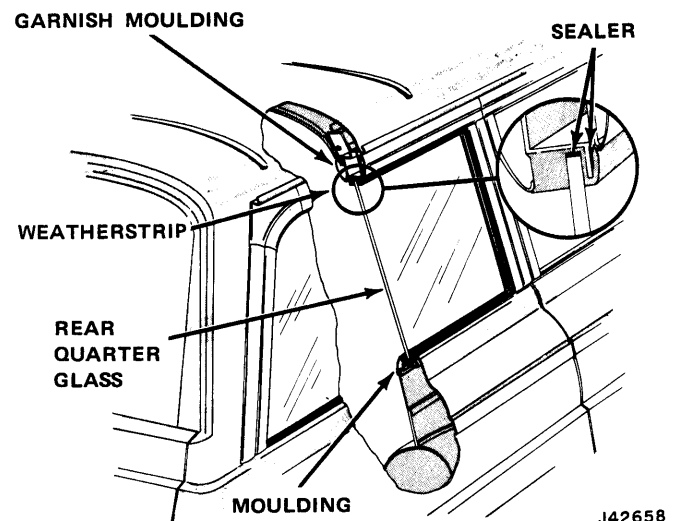

Fig. 15-6 Rear Quarter Window—Cherokee-Wagoneer
- (1) Remove interior garnish mouldings from around window and break seal loose between weatherstrip and body panels.
- (2) Push glass toward inside of vehicle.
- (3) Remove weatherstrip from around glass and clean old sealer from glass cavity and flange cavity.
(4) Before installing glass in weatherstrip, apply a 3/16-inch bead of 3M Windshield Sealer or equivalent in glass cavity completely around weatherstrip using a pressure type applicator (fig. 15-6).
(5) With glass installed in weatherstrip and before installing glass and weatherstrip into opening, insert a 1/4-inch cord completely around weatherstrip in flange cavity.